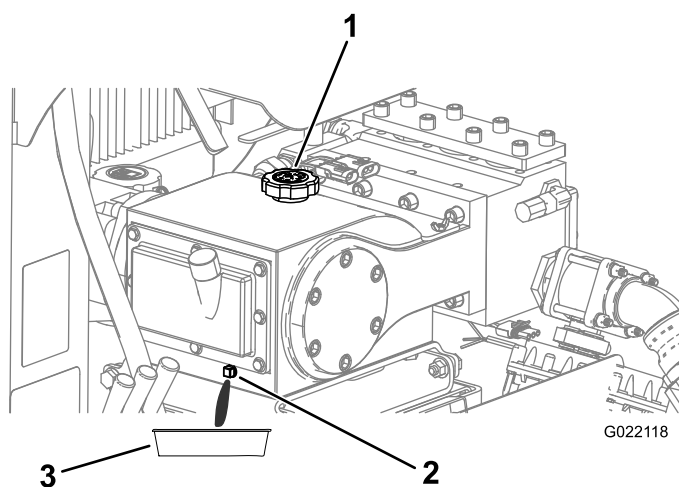

Figure 150
4. Remove the drain plug and place a drain pan under the drain-plug hole (Figure 150).
6. Allow all of the oil to drain from drain plug into the oil pan (Figure 150).
8. Remove the oil-filler cap (Figure 150) and add approximately 1.9 L (2 qt) of oil, or until the oil reaches the oil-fill line on the dipstick as shown in Figure 149.